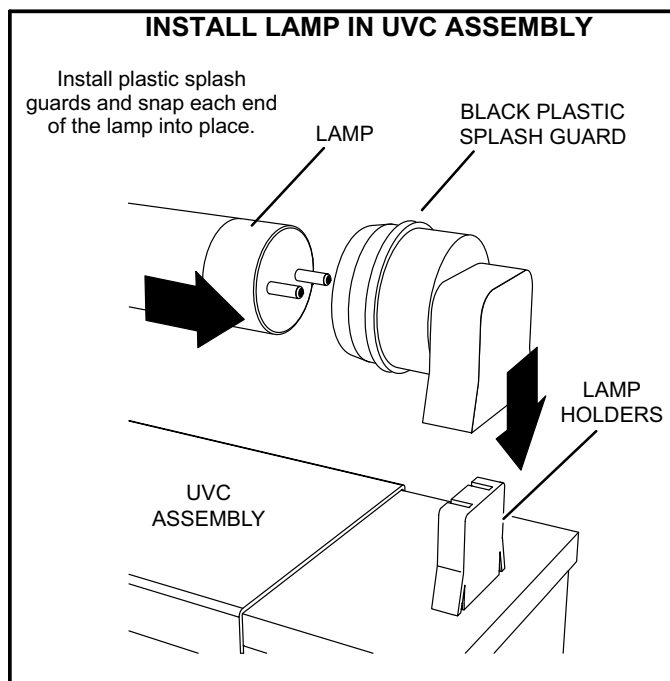

FIGURE 1
- 1- Wear cotton gloves or use a cotton cloth when handling the new lamp. To install the lamp, remove two black plastic splash guards from the lamp holders on each end of the UVC assembly. Gently but firmly push in the splash guards on each end of the lamp. See figure 1.